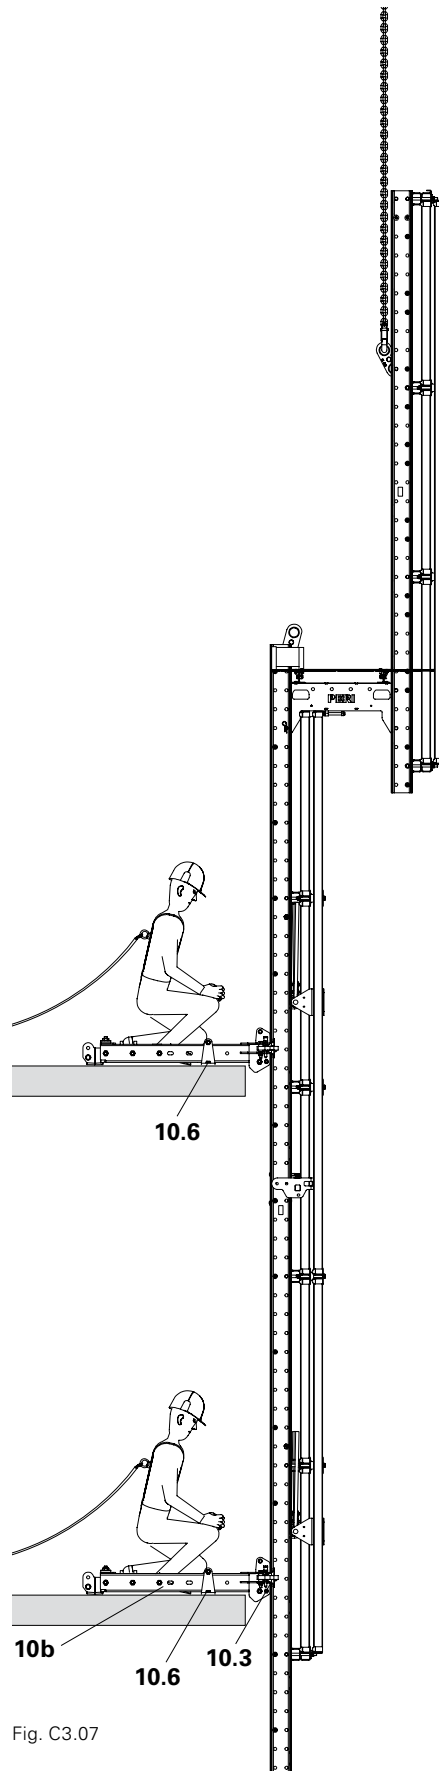

Fig. C3.07
10. Activate the climbing pawls of the bottom Slab Shoe and deactivate the top Slab Shoe. (Fig. C3.07)